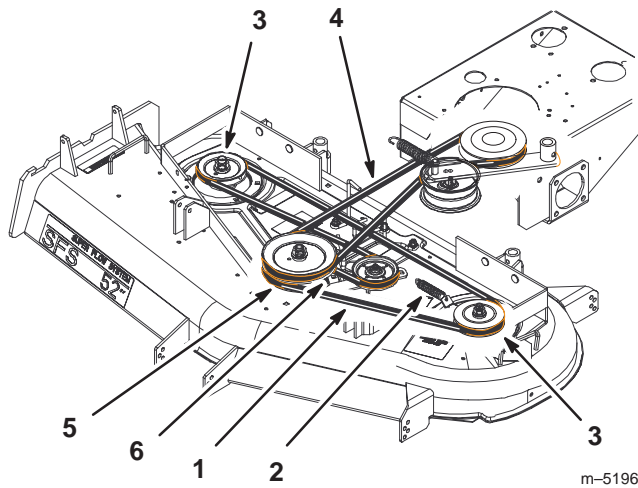

Figure 57
5. Disconnect the idler arm spring to relieve tension on the idler arm and idler pulley, then remove the worn deck belt (Fig. 57).
6. Install the new deck belt around the two outside spindle pulleys, the idler pulley, and in the lower groove of the center spindle pulley (Fig. 57).
7. Connect the idler arm spring (Fig. 57).
- Adjust deck belt guide an 1/8 in. from belt (Fig. 57).